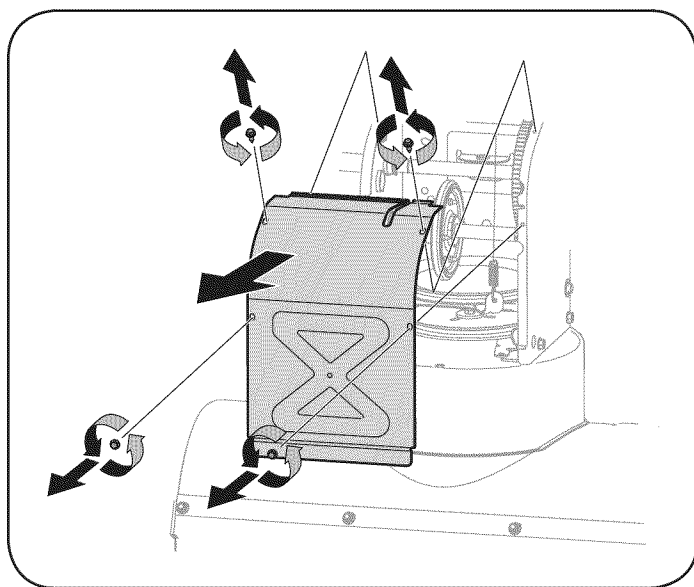

Figure 31
6. Remove the frame cover from the underside of the snow thrower by removing four self-tapping screws which secure it. See Figure 31.